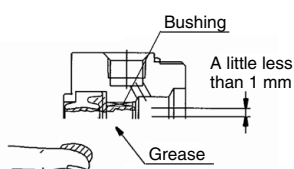

Fig. 6 Rod seal
- ③⑦ Rod seal A: Apply grease to the seal and the inner circumference of the bush. (Fig. 6)